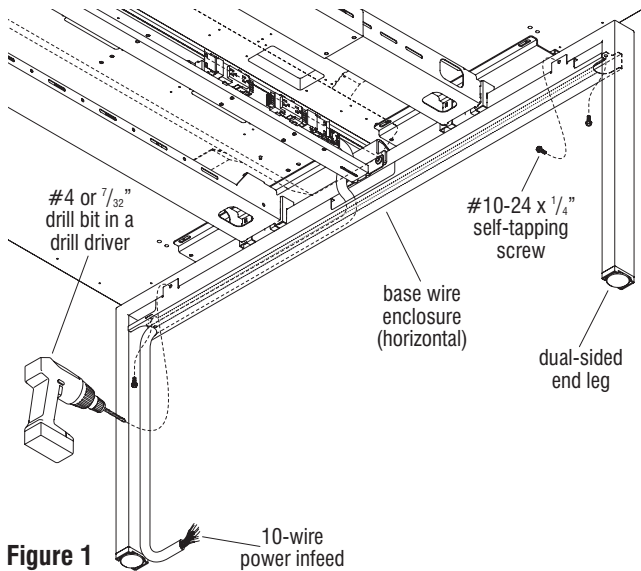

Figure 1
1. Determine which leg the base power infeed will run along into the benching system (Figure 1).